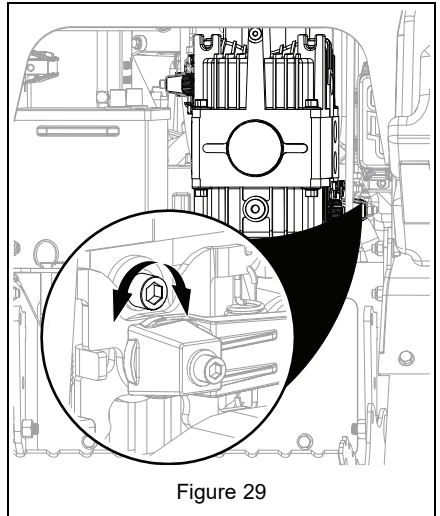

Figure 29
3. Loosen one of the return to neutral screws on either side of the pump. See Figure 29.